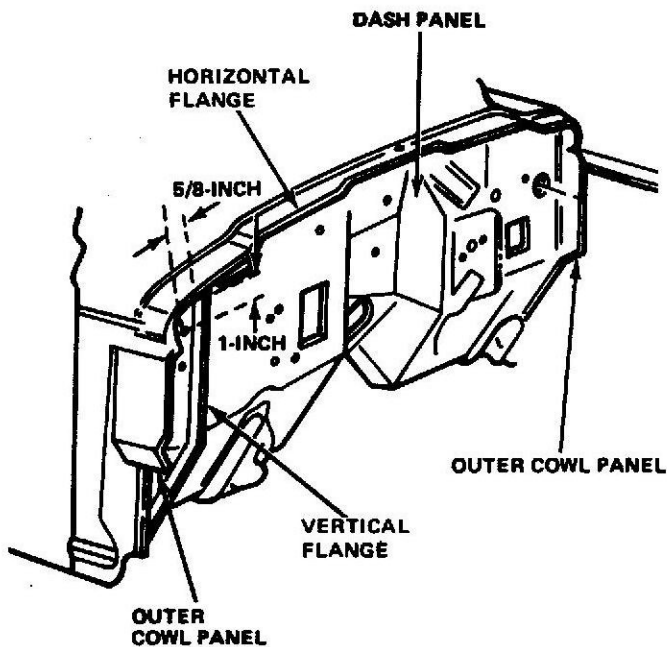

Fig. 2
(1) Raise hood.
(2) Using grease pencil, place mark on both outer cowl panels 1-inch below horizontal flange and 5/8-inch outboard of vertical flange (Fig. 2).
(3) Centerpunch and drill 1/2-inch diameter hole in each panel at marked locations.
(4) Shake Touch-N-Foam container and install nozzle and tubing on container.